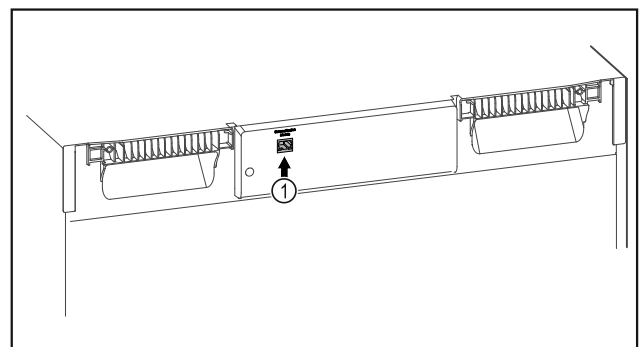

Fig. 95
- ❑ SmartModule Fig. 95 (1) is in use.